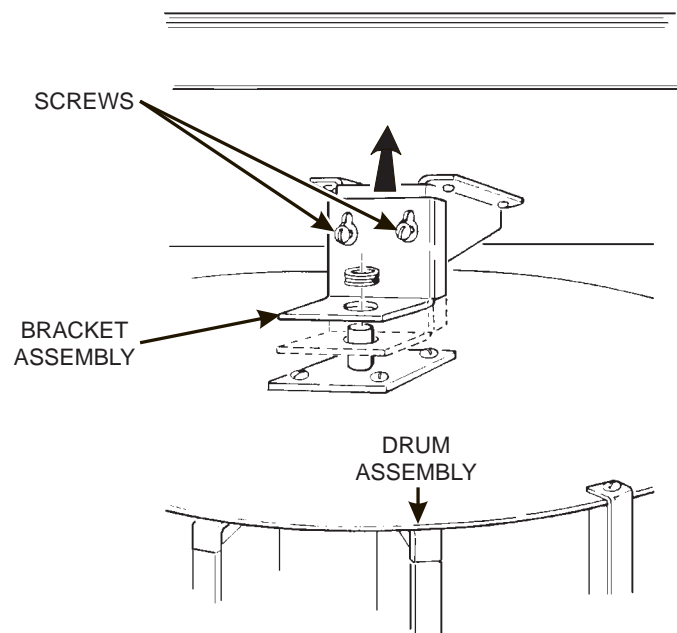

Figure 4-5. Drum Assembly Removal and Replacement
5. See figure 4-5. Loosen two screws and remove the top bracket assembly.